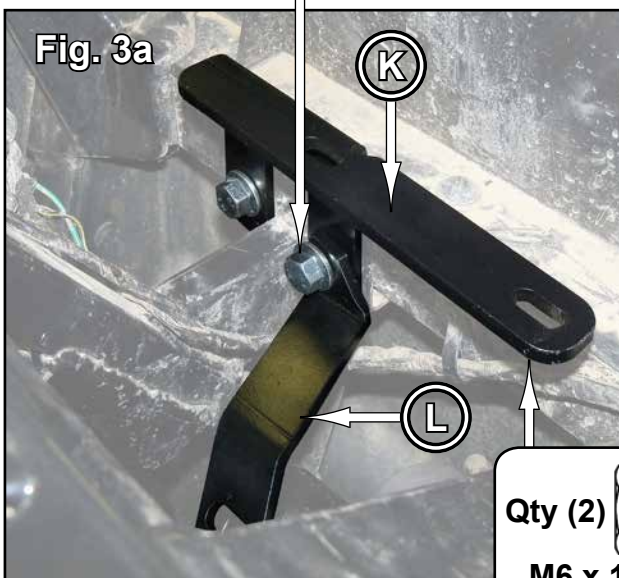

Fig. 3a
- Install Support Bar (L) to ECU Mount (K) and secure with M10-1.25 x 30mm Lg. FHCS. See Fig. 3a.